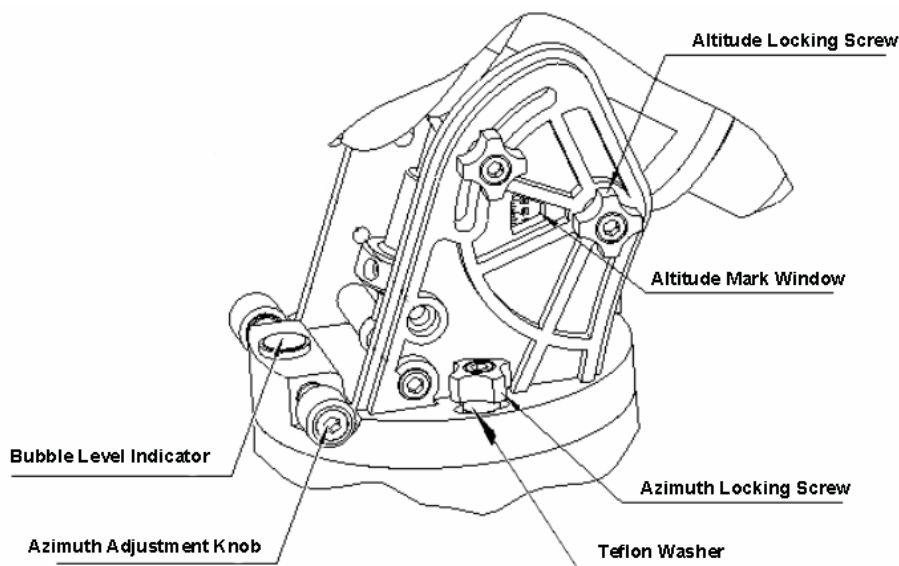
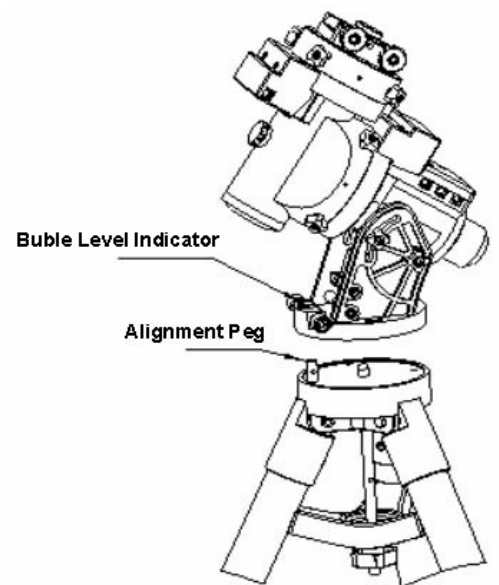

Figure 2
Figure 3
2. **Attach the EQ mount:** Retract the Azimuth Adjustment Knobs (next to the Bubble Level Indicator) to allow enough clearance for the Alignment Peg seating in the house. Unscrew 3 Azimuth Lock Screws (Figure 2). Put the mount onto the tripod head with bubble level on top of the Alignment Peg (Figure 3). Put the Teflon washer and three Azimuth Lock Screws back and tighten them. Level the tripod base by adjusting individual leg. You may use the build-in Bubble Level Indicator or an external torpedo level to check level.